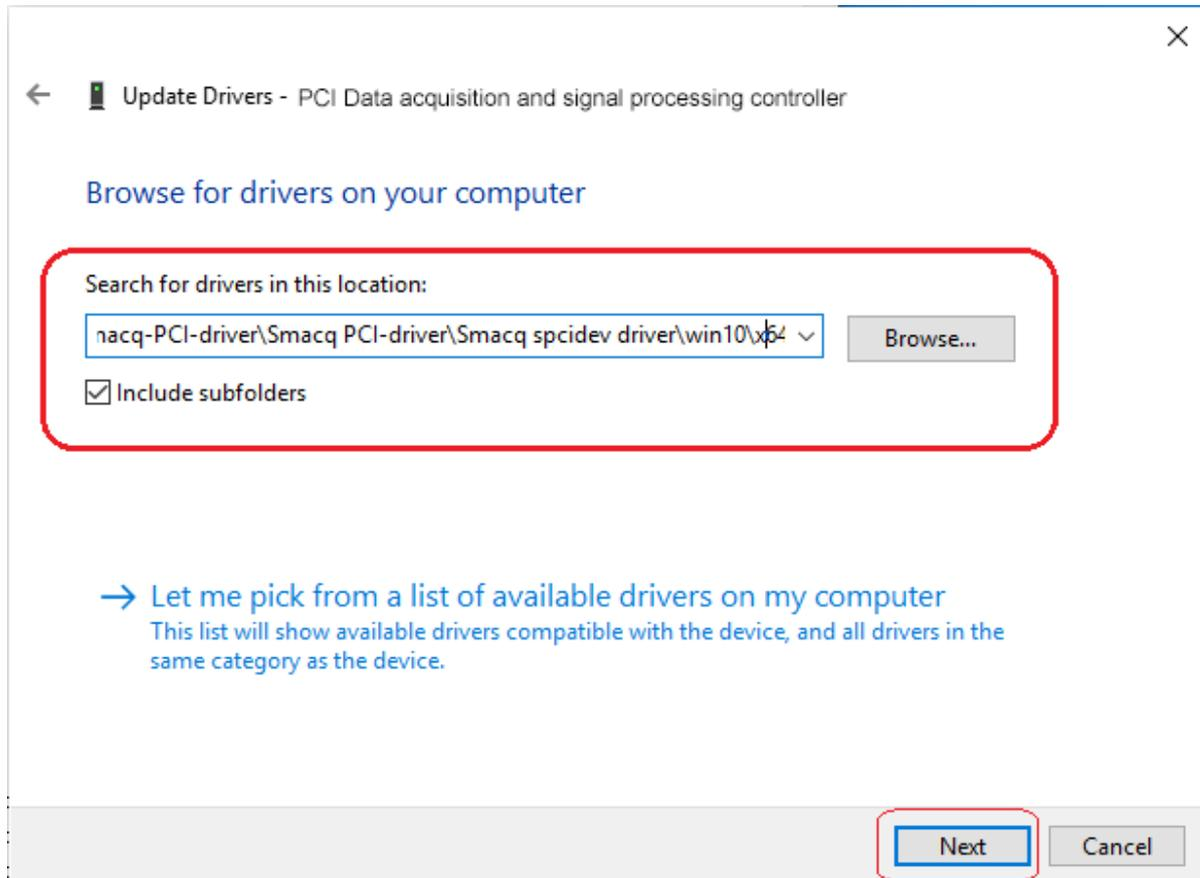

Figure 2.5 Locate the folder where the driver is located.
- 3) Then in the pop-up dialog box, click "Browse" button, locate the operating system version folder corresponding to the driver, and then click "Next", as shown in Figure 2.5.